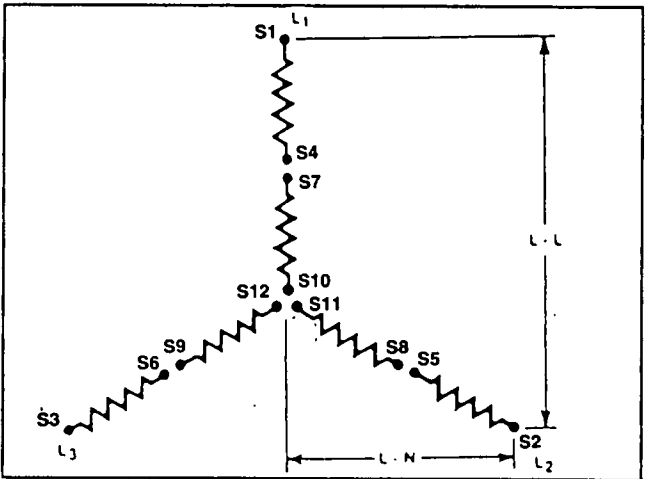

Figure 4. Series Wye (High Wye) Stator
See Figure 4. This type of stator has six (6) windings and twelve (12) leads brought out into the AC connection (lower) panel. This configuration is used in units with Voltage Codes "C", "H", "K" and "R" (see CHART on previous page). The following CHART indicates how the 12 leads are connected to form L1, L2, L3 and Neutral.